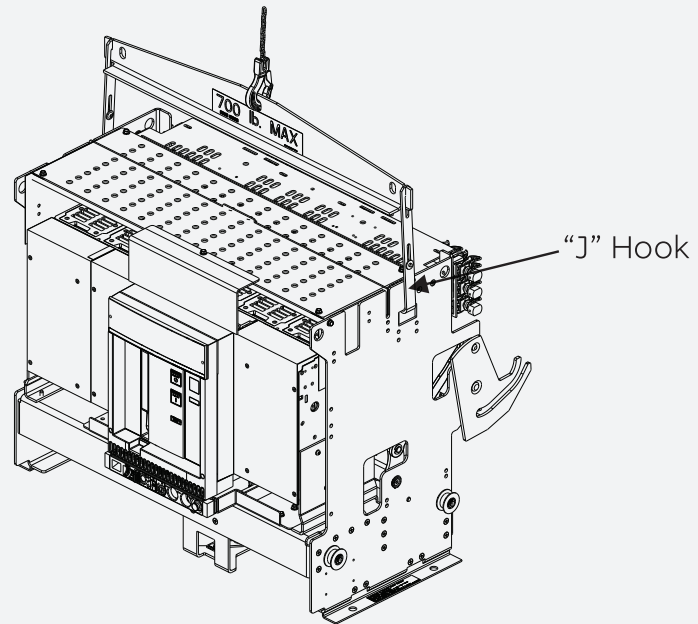

Figure 46
- c. Alternate method, use a lifting chain and hooks rated at least 1400 lbs to lift the breaker from above as shown in Figure 46. (chains must not be at an angle less than 45 degrees from the horizontal plane.) Installation in upper compartments may not be possible with limited overhead space or the GE switchgear hoist.